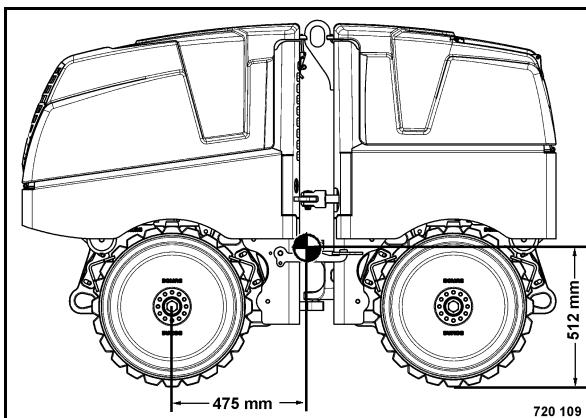

Fig. 87
- Position of centre of gravity (Fig. 87).